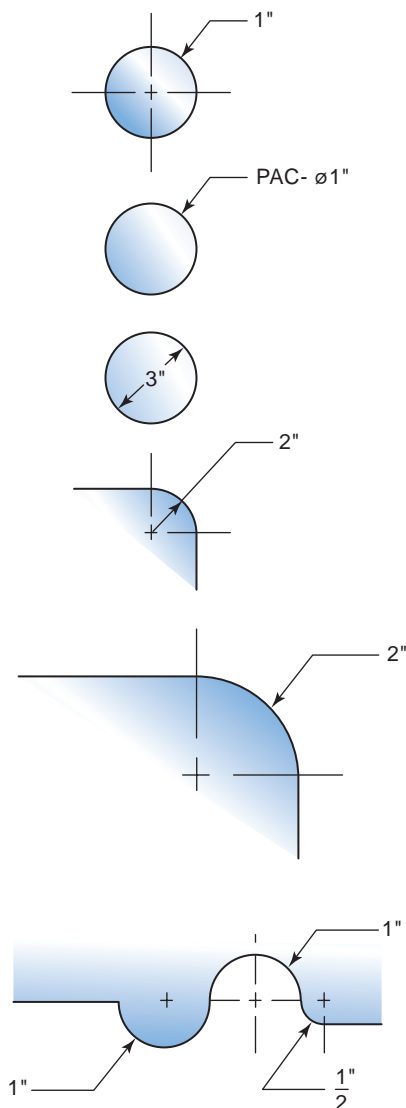

FIGURE 17-52 Dimensioning for arcs, curves, radii, and circles.
Circles, arcs, and curves can be laid out by using either a compass or a circle template, Figure 17-51(A) and Figure 17-51(B). The diameter is usually given for a hole or round part, and the radius is usually given for arcs and curves, Figure 17-52. The center of the circle, arc, or curve may be located using dimension lines and center lines. Curves and arcs that are to be made tangent to another line may be dimensioned with only their radii, Figure 17-52.